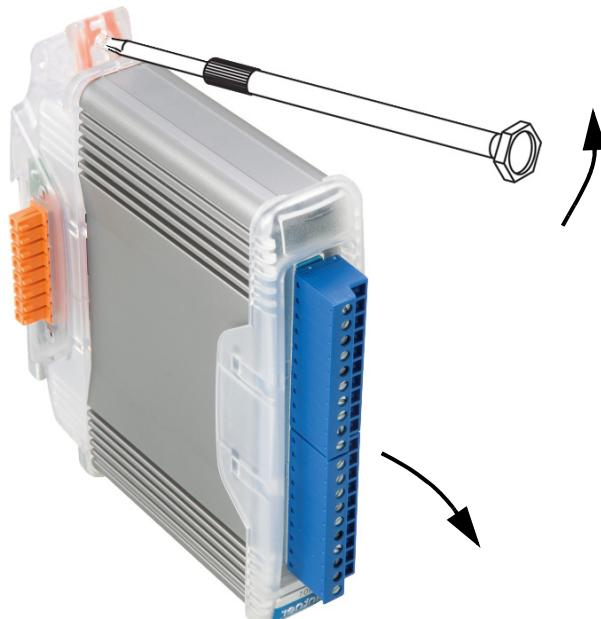

Fig. 4-7 Removal of a module from the base.
5. Withdraw the module again (Fig. 4-7, page 30).
To remove a module from the base insert a narrow screwdriver through the hole in the upper latching cam and press the orange-colored clip in the latching cam upwards by pressing the screwdriver downwards (Fig. 4-7). Pull the module out to the front and downwards with a slight rotary movement.